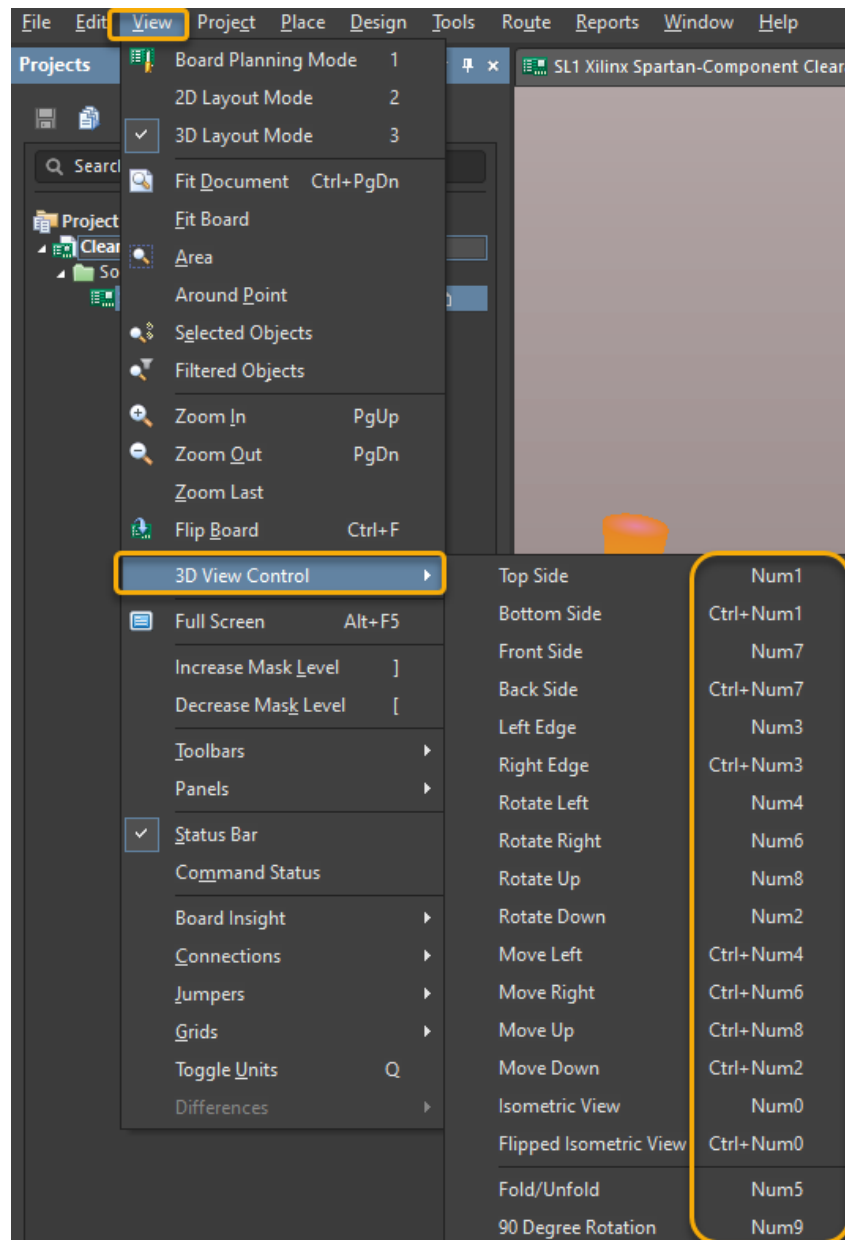

Figure 1. 3D View Control Menu
9. When in the 3D view, as well as using some of the options described in this module, there is a dedicated 3D menu, as shown in Figure 1 below. Also, notice on the right of the menus, there are keyboard shortcuts that can be applied using the numerical keys on the right-hand side of a full keyboard.